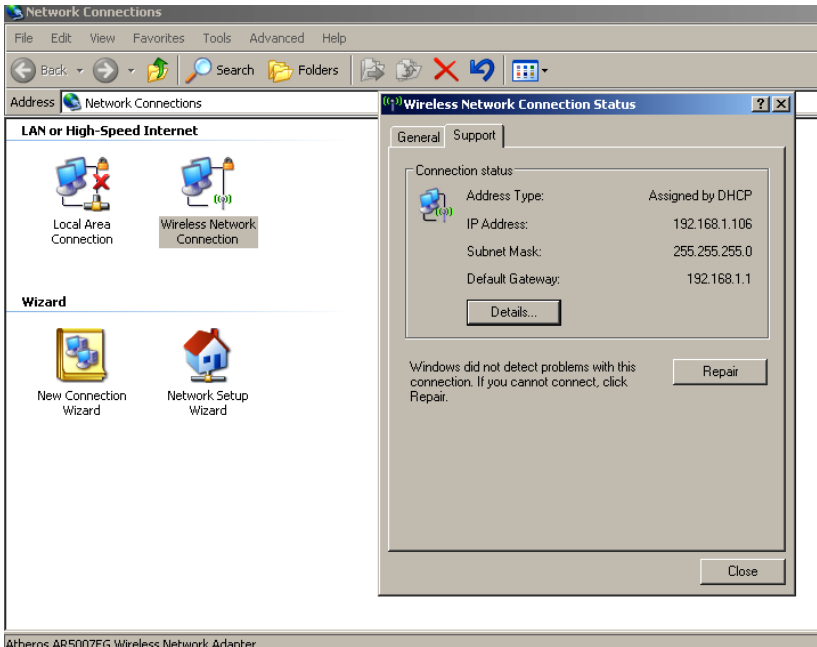

Figure 6-3. The network connections panel in Windows.
1. Click on Network Connections. (See Figure 6-3.)